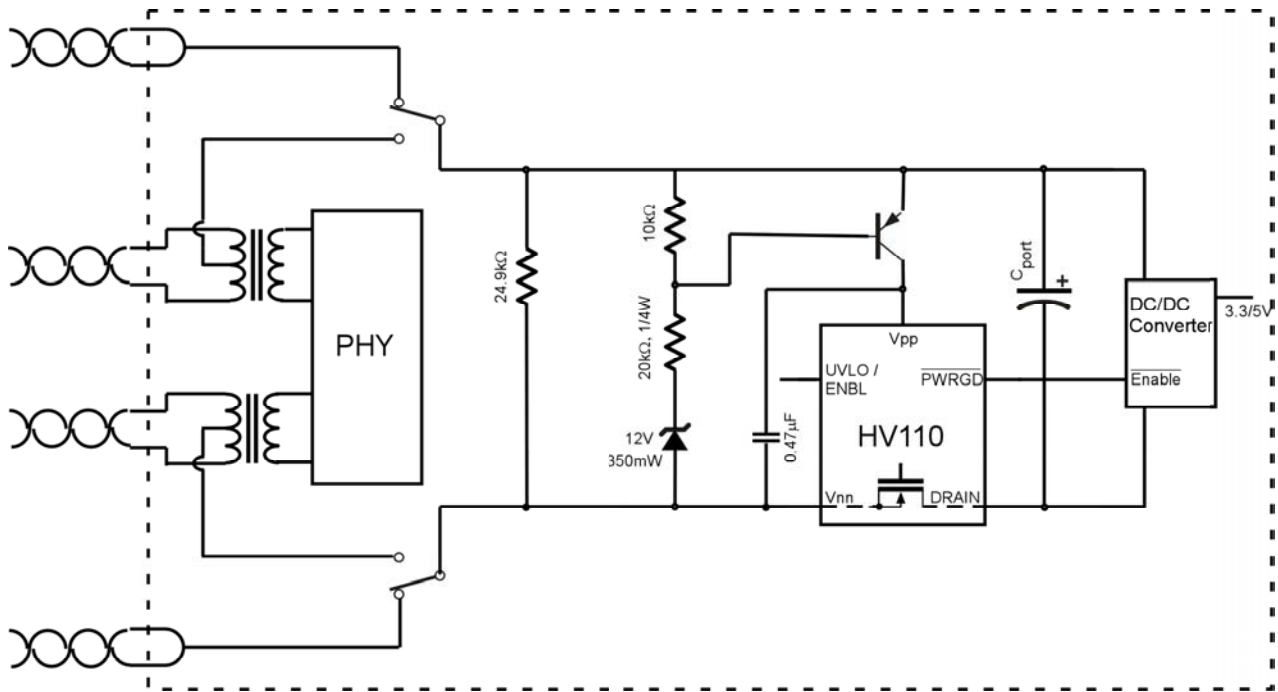

Figure 10. Powering HV110 using a PNP transistor instead of a zener
- Meets the turn-on and turn-off thresholds for the PD device & has a built-in 8V hysteresis (with PNP transistor as shown in Figure 10).
Because of the zener diode connected to V_{PP} pin, it will be necessary to modify the internal UVLO thresholds by using two external resistances as shown in Figures 1, 9 and 11, to provide the UVLO turn-off and turn-on voltages to meet the IEEE 802.3af standard. These two resistors perform dual functions, UVLO voltage adjustments and also the Signature Detection function (i.e. represent the 25k impedance). Figure 10 shows a different implementation using a PNP transistor which allows the use of the HV110's internal UV circuit.
Figure 10 shows the modified circuit. In the Discovery stage, the input voltage is less than 10V. This causes the zener to be reverse biased and hence there is no base current to the PNP transistor. Once the input voltage increases beyond 12V, the zener starts conducting, which provides a base current path for the PNP transistor. The transistor goes into the saturation region, essentially pulling V_{pp} to the rail.